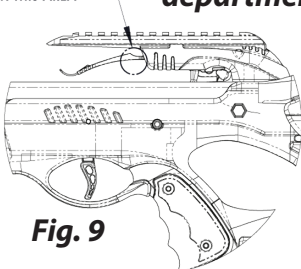

Fig. 9
- To adjust the *over-molded* style retainer spring, use a pair of needle nose pliers and bend to increase/decrease pressure on the arrow. USE CAUTION! (**See Figure 9**)